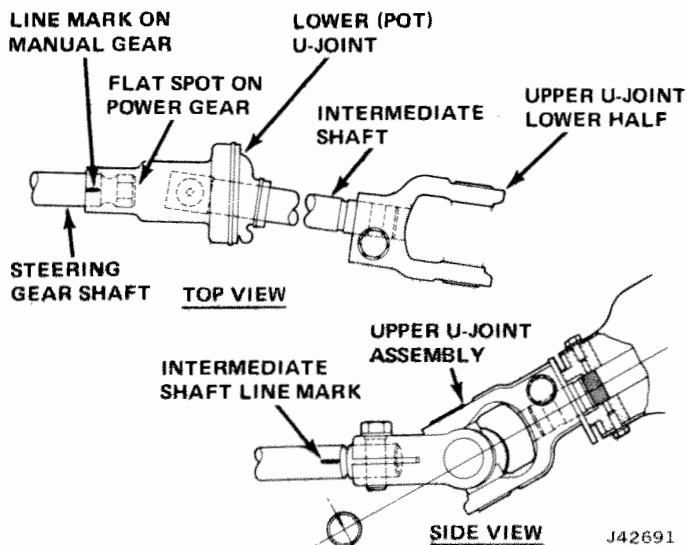

Fig. 11-3 Steering Gear-to-Steering Wheel Alignment
(1) Install coupling cover on lower shaft, aligning slot in clamp with mark on shaft (fig. 11-3).
(2) Install clamp bolt and tighten to 40 foot-pounds torque.
(3) With steering shaft installed, place bearing blocks with wave washers in place over each end of pivot pin after first lubricating pin with chassis grease.
(4) Place retainer over end of shaft.
(5) Lubricate inside of housing with chassis grease and carefully position over pivot pin.